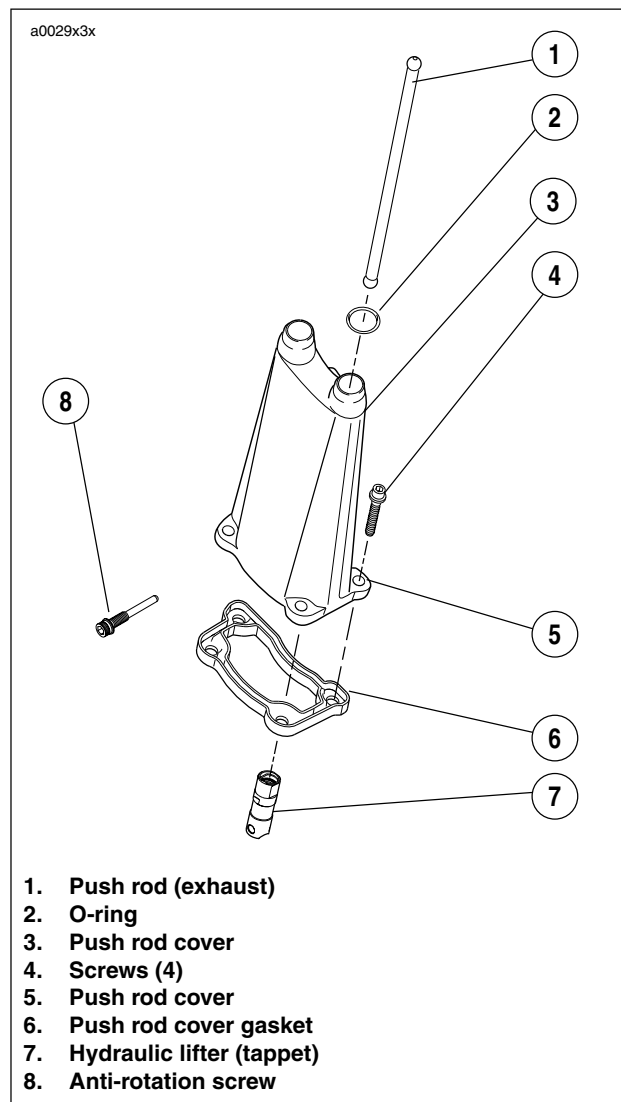

Figure 3-102. Valve Lifter Service
4. See Figure 3-102. Remove push rod cover.
3. See Figure 3-102. Insert lifter into bore in crankcase. Rotate lifter so that flats at upper end of lifter face the front and rear of the engine. If the lifter is installed incorrectly, anti-rotation screws cannot be inserted.